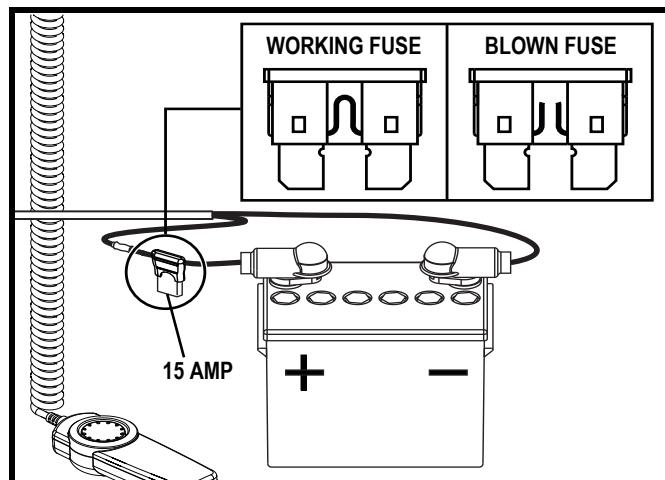

Figure 11. Hardwire Fuse
- If the circuit breaker reset button is not tripped, check the hardwire fuse to see if it is blown. Replace if necessary. **See figure 11.**
- Check the fuse located on the red power wire near the battery. If blown, replace with a new 15-amp fuse. **See figure 11.**